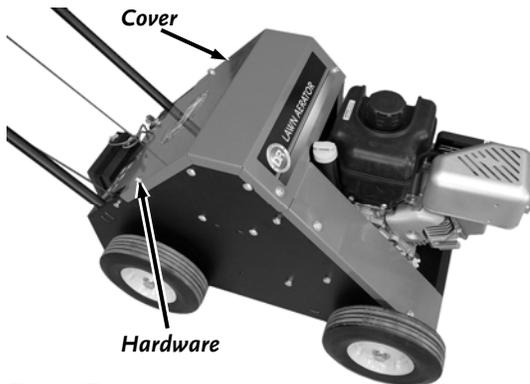

Figure 17
1. Remove the four Bolts and Flat Washers that secure the Cover using a 7/16" Wrench (**Figure 17**) and remove the Cover.